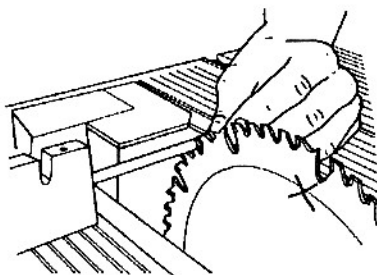

Fig. B-22
23. Loosen the carriage lock and pull the carriage knob so the blade is as close to the infeed side of the table as it can go. Do not rotate the saw blade. Tighten the carriage lock. Move the rod in the miter gauge past the blade teeth, as in Fig. B-22.